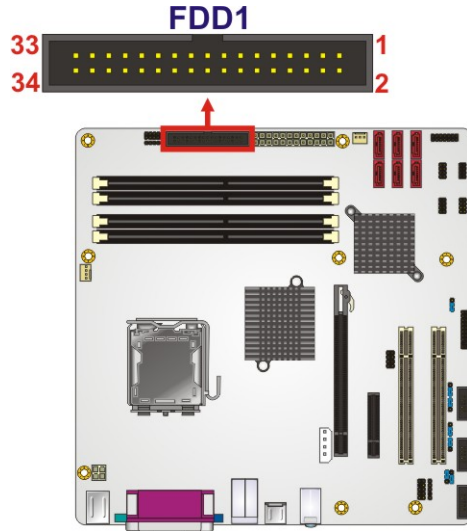

Figure 3-7: 34-pin FDD Connector Location
- CN Location:** See **Figure 3-7**